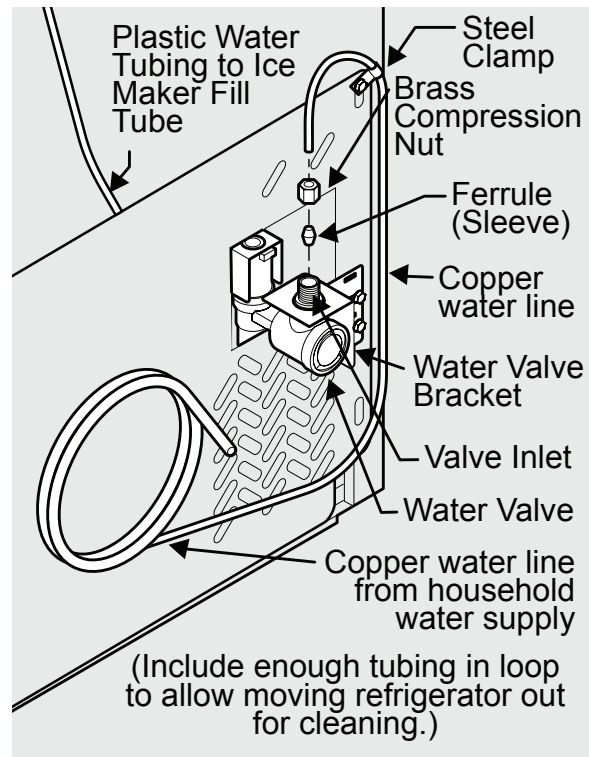

Figure 1
4. If you use copper tubing - Slide brass compression nut, then ferrule (sleeve) onto water supply line. Push water supply line into water valve inlet as far as it will go ($\frac{1}{4}$ inch/6.4 mm). Slide ferrule (sleeve) into valve inlet and finger tighten compression nut onto valve. Tighten another half turn with a wrench; **DO NOT** overtighten. See Figure 1. If you use braided flexible stainless steel tubing - The nut is already assembled on the tubing. Slide nut onto valve inlet and finger tighten nut onto valve. Tighten another half turn with a wrench; **DO NOT** over tighten. See Figure 2.